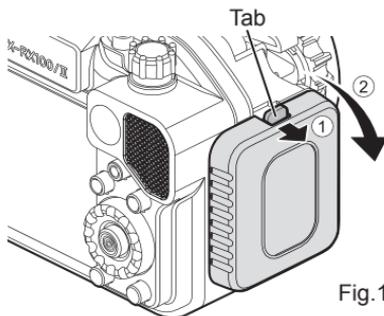

Fig.1
- 1 Push the tab outward to unlock as indicated by ①, and rotate the lock knob clockwise as indicated by ② to lift the rear cover from the front case (Fig. 1)